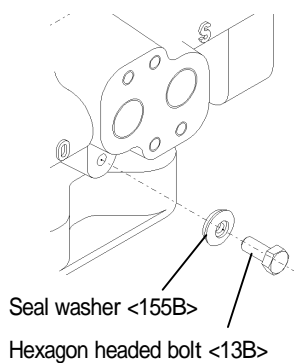

Fig.19
- (11) Plug the leak detector hole with a seal washer and a hexagon headed bolt, to complete reassembly of an actuator (**Fig.19**).